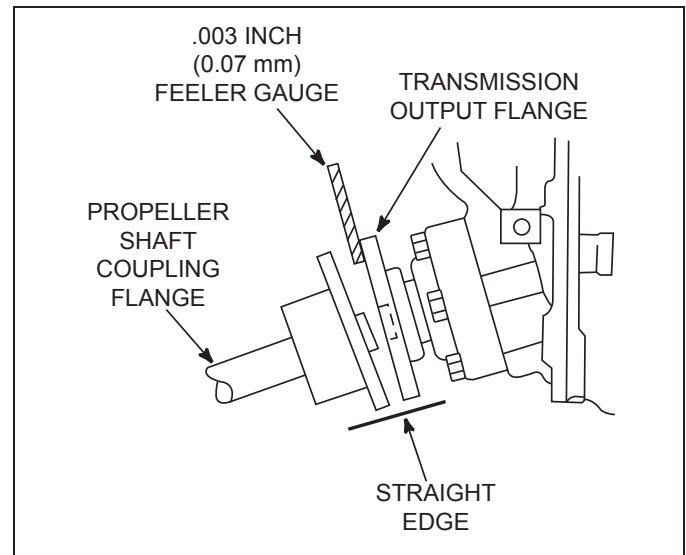

Figure 11-30 Angular Alignment
5. Check for any angular misalignment. Hold coupling faces tightly together by hand and check for a gap between the coupling faces, with a 0.003 in. (0.07 mm) feeler gauge, at 90-degree intervals. (Figure 11-30).